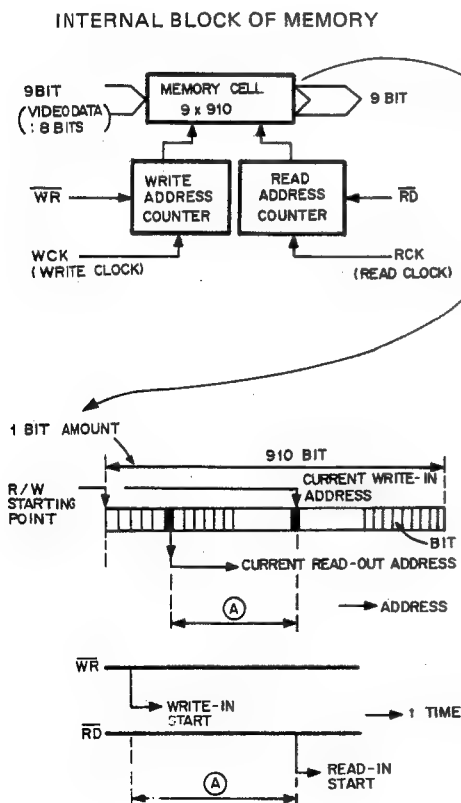

Fig. 3-2
For this, independent address counters are provided for writing and reading, and the \overline{WR} and \overline{RD} signals are the reset signals for the two address counters. The WCK and RCK signals are the clocks of the two counters. (See Fig. 3-2.)
As a result, as long as the \overline{WR} signal is before the \overline{RD} signal, the written data is read out with a time delay which is the difference between \overline{WR} and \overline{RD} (Fig. 3-2 (A)). The maximum delay period is determined by the capacity of the line memory: Since MN4760 has a 910-sample memory, the delay time is 910 addresses = 1H.